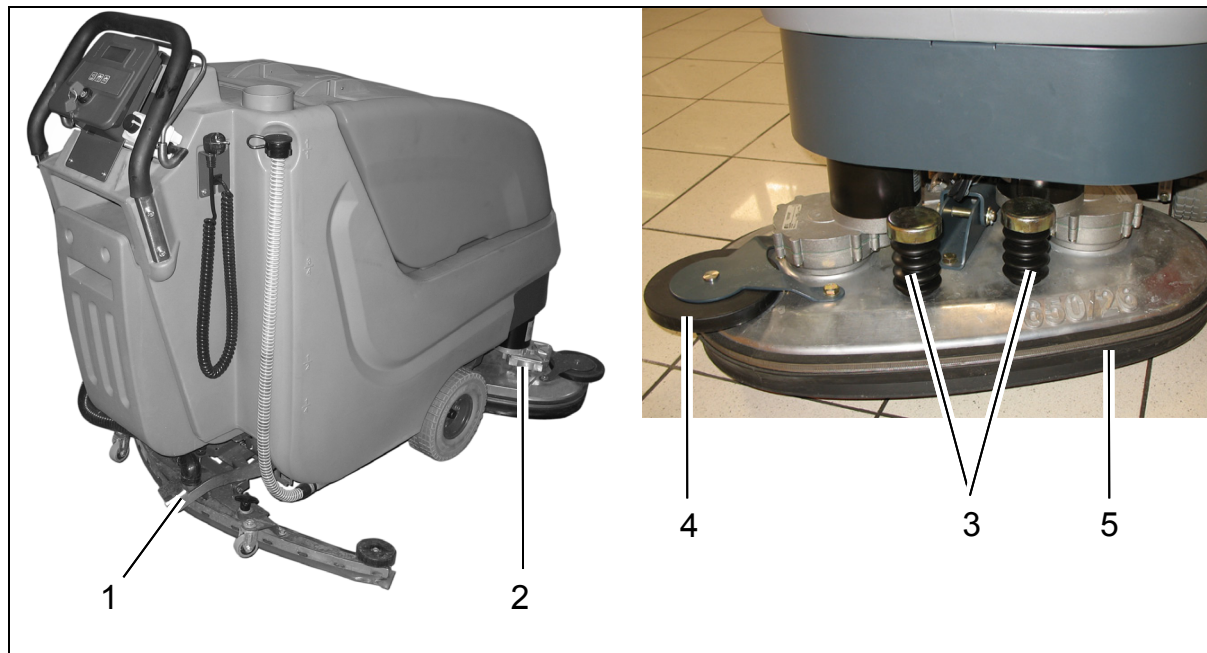

Fig.9
Clean brushes of the brush deck (Fig. 9/2) at daily intervals or as required.
1. Use pedal (Fig. 9/1) to lift up brush deck.
2. Press brush ejectors (Fig. 9/3) down to remove brushes for cleaning.
2. Press brush ejectors (Fig. 9/3) down to remove old brushes.
Check roller bumper (Fig. 9/4) at weekly intervals or replace as required.
Check sealing strip (Fig. 9/5) at weekly intervals or as required. Before doing so, open toggle-type fastener and remove sealing strip. Proceed to mounting in reverse order.